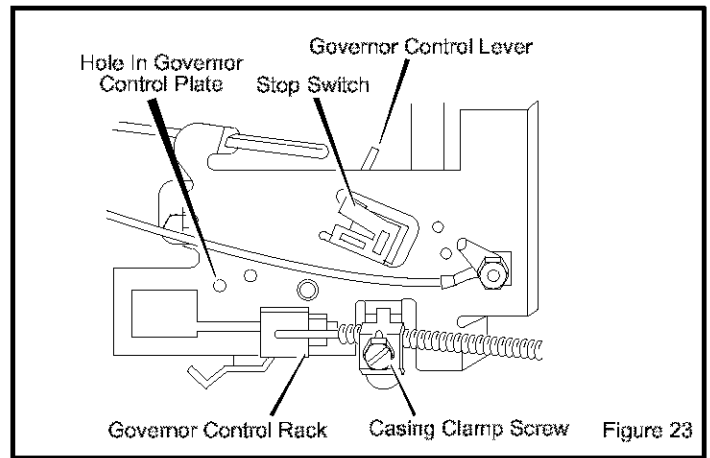

Figure 23
2. The hole in the **governor control lever** (located just behind governor control plate) must align with the **hole in the governor control plate** (see Figure 23).